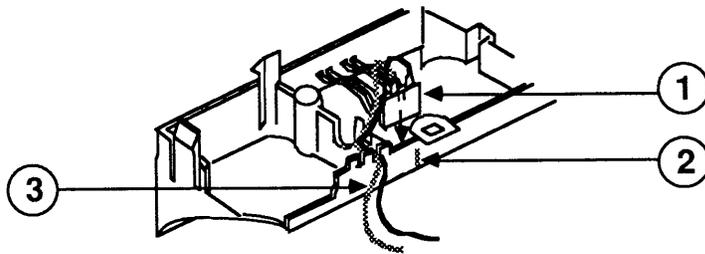
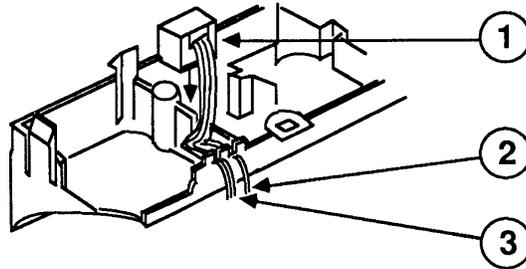

FIGURE 44
FIGURE 45
There are two paper sensors: one is a mechanical paper-out sensor (Figure 44, #1), and one is an optical paper-out sensor (Figure 45, #1). For information on the compatibility of these sensors with the main CPU PCBs, refer to Section 4, Additional Procedures.
Insert a small flatblade screwdriver into the notch that holds the sensor in place (Figure 44, #2).
a) For the mechanical sensor: route the wires as shown in Figure 44, #3.
b) For the optical sensor: route the black-and-yellow wire (shown in Figure 45, #3) and route the single wire (shown in Figure 45, #2).